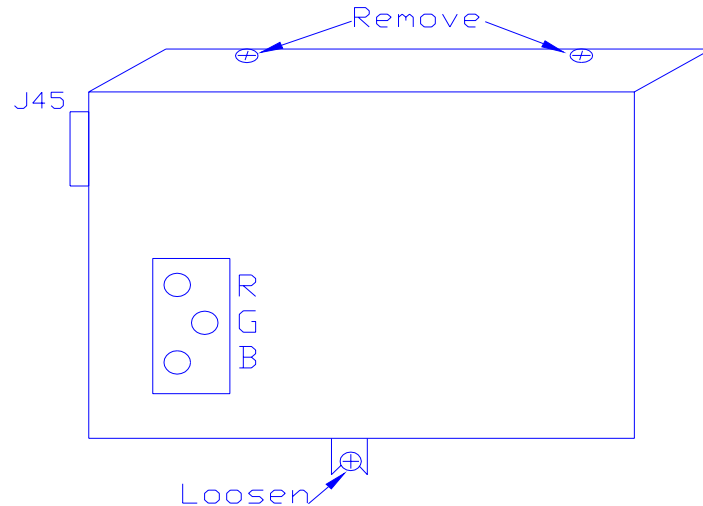

Figure 4-5. High Voltage Power Supply cover.
2. Remove the High Voltage Power Supply cover (*Figure 4-5*) by removing the 2 pozidrive screws that secure the HVPS at the top of the cover and loosening the 1 pozidrive screw at the bottom of the front flap (Do not remove this bottom screw-it is difficult to reinstall. The HVPS will slide up and over it).
3. Remove the two pozidrive screws from the top of the High Voltage Power Supply (HVPS) cover (Figure 4-5) and loosen the one screw at the bottom of the cover (do not remove the bottom screw-it is difficult to replace-the HVPS will slide up and over it).